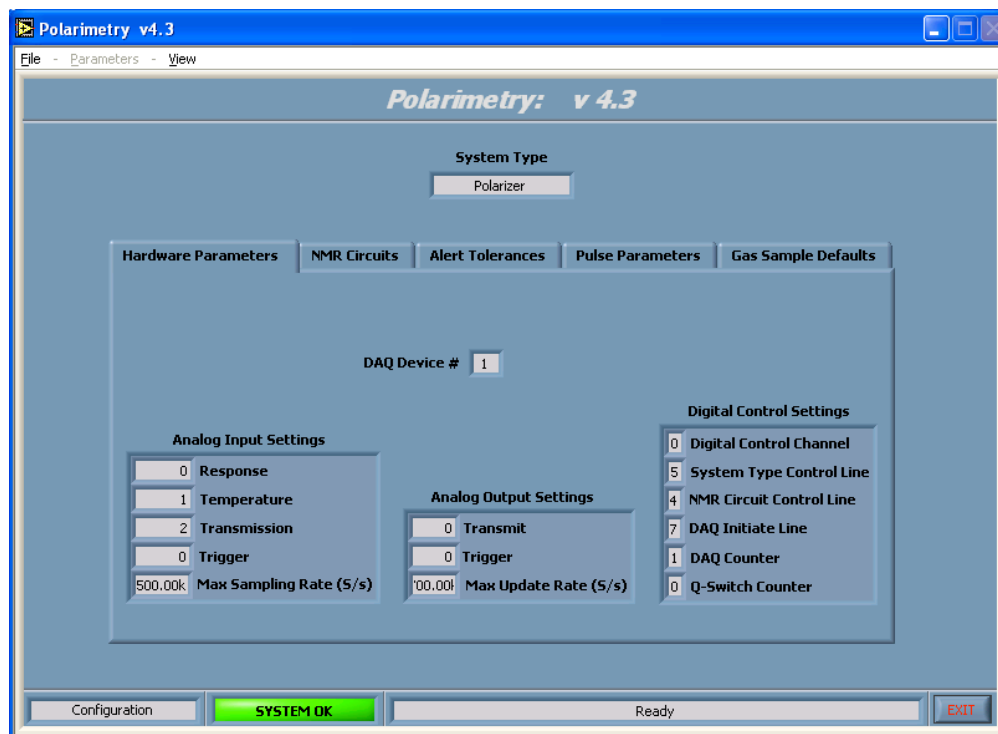

Figure 14: Polarimetry application-Configuration view
- The Configuration view — displays specific settings for Hardware Parameters, NMR (Nuclear Magnetic Resonance) Circuits, Pulse Parameters, Alert Tolerances, and Gas Sample Standards (see Figure 14).